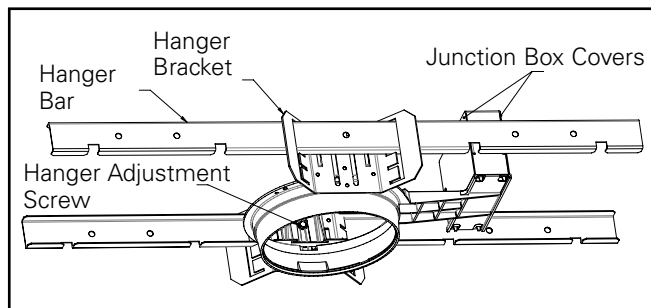
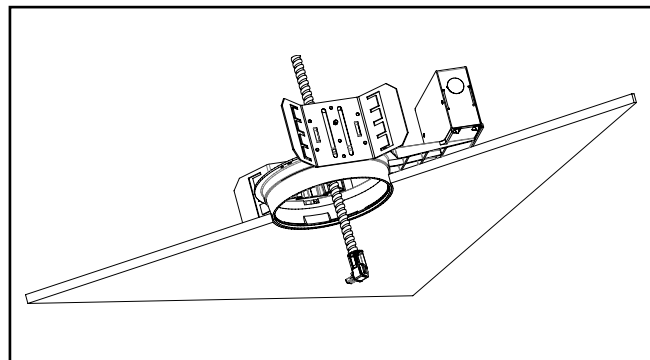

Figure 1
Figure 2
2. Hanger Adjustment Screw: Adjust hanger adjustment screws (Figure 1.) so bottom of plaster ring is flush with finished ceiling line. (Figure 2.) Hanger bracket is reversible for total adjustment of 5”
1. Place end of flexible conduit through frame opening in ceiling exposing upper portion of quick disconnect (Figure 2.).